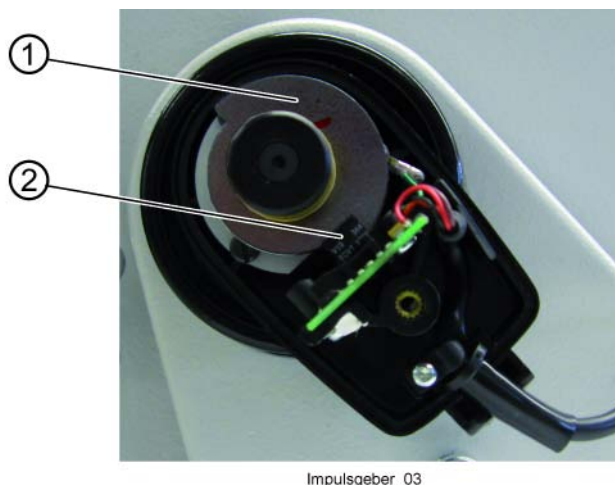

Fig. 7
The pulse wheel (1) from the encoder must be positioned so that the outgoing edge (disc transition from "light" to "dark" in the machine direction) in the sensor (2) when the machine with the needle reaches the front position (Fig. 7).